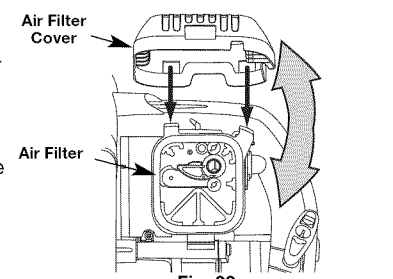

Fig. 23
1. Open the air filter cover. Push the locking tab on the underside of the cover inward. Then pull the air filter cover out and up. (Fig. 23).
2. Remove the air filter (Fig. 23).
6. Replace the filter (Fig. 23).
7. Reinstall the air filter cover. Position the slots on the top of the air filter cover onto the tabs at the top of the back plate (Figs. 23).
8. Swing the cover down until the tab on the air filter backplate snaps into place in the slot on the air filter cover (Fig. 23).